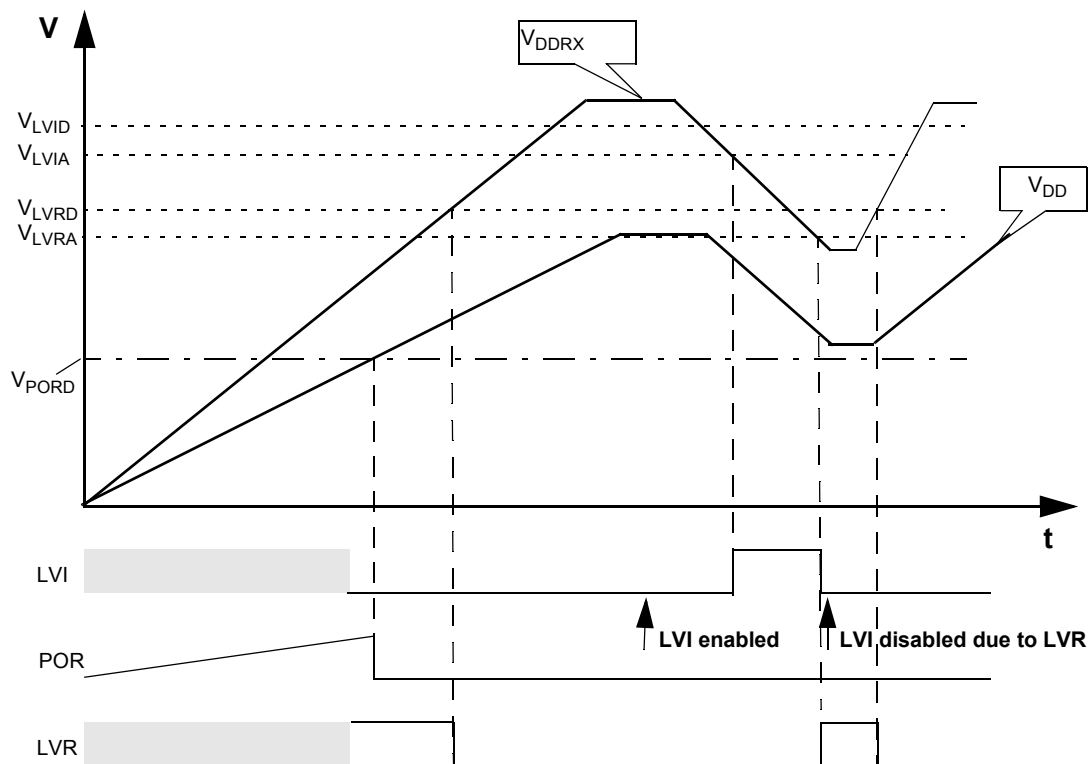

Figure 7. Chip power-up and voltage drops OSCLCPcr electrical specifications
56. Monitors VDDRX, active only in Full Performance mode. MCU is monitored by the POR in RPM (see Figure 7)
58. Monitors VDDRX, active only in Full Performance mode. V_{LVRA} and V_{PORD} must overlap (see Figure 7)